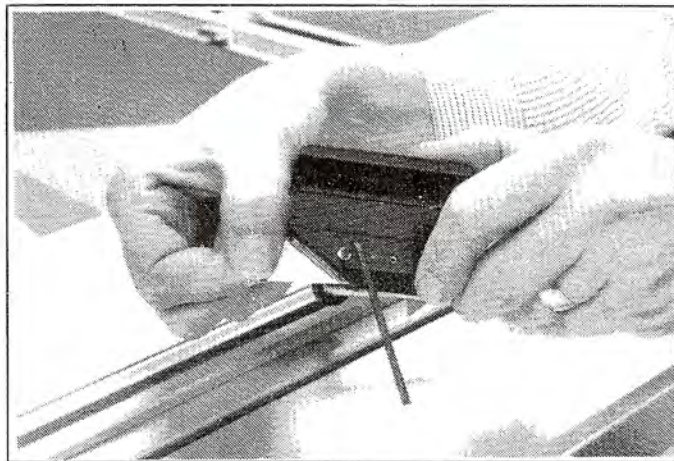

Fig. 17
1. Loosen the vertical blade locking screw by half a turn using the 3mm Allen key. Slide the blade out of the front of the blade holder (Fig. 17).